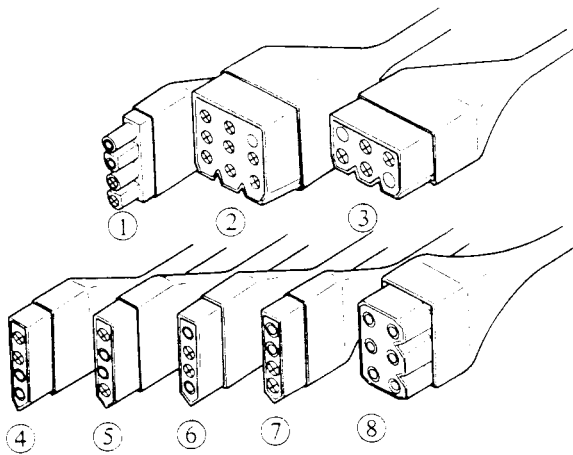

Fig. 4
- Connect the cords to the terminals making sure they are correctly connected to their mating terminals as shown in Fig. 4 and 5.
- ① Connector for power supply
- ② Connector for encoder
- ③ Connector for wiper
- ④ Connector for suction unit
- ⑤ Connector for additional back tack and tension release
- ⑥ Connector for back tack and trimmer
- ⑦ Connector for presser foot lift